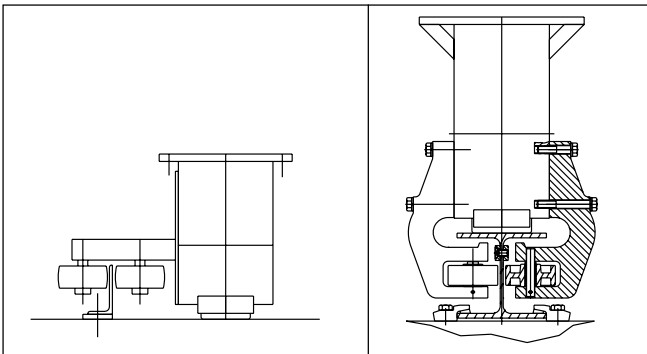

Fig. 4 - Traversing on concrete track. Fig. 5 - Traversing on rails with "L" shaped guide rail
The trolley is guided along the track by guide wheels (8) placed laterally on the roller frames, whether "L" shaped guide rails (Fig. 4), concrete guides or rails (Fig. 5) are used.